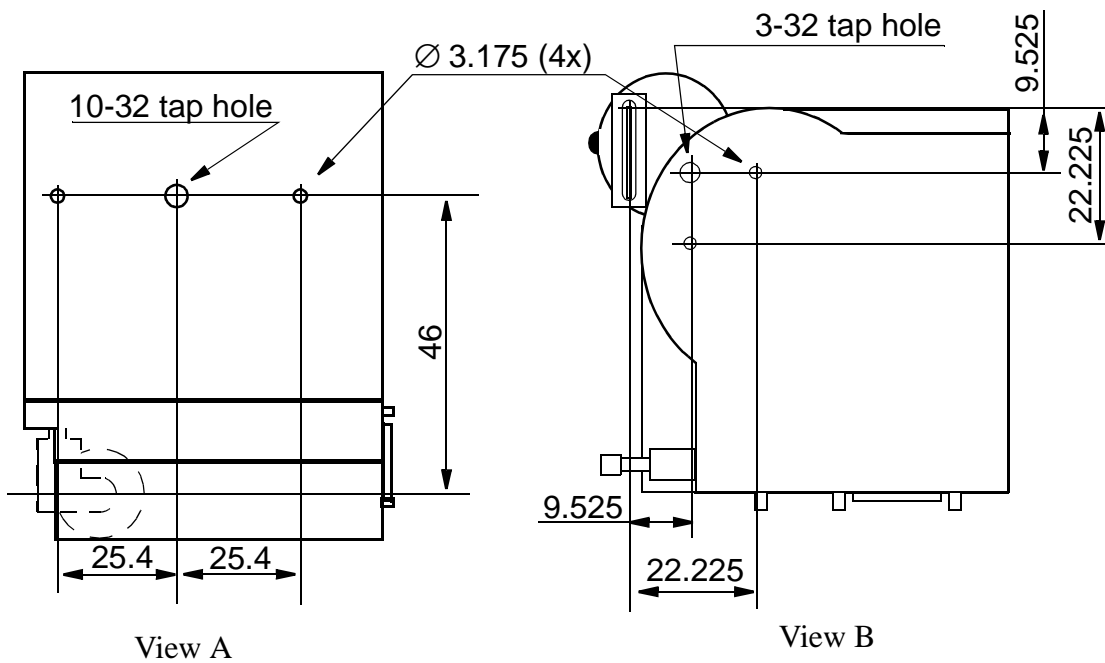

Figure 23 Mounting hole patterns on unit.
- Use either a c-clamp or a bracket in the holes prepared in the unit (see Figure 23).